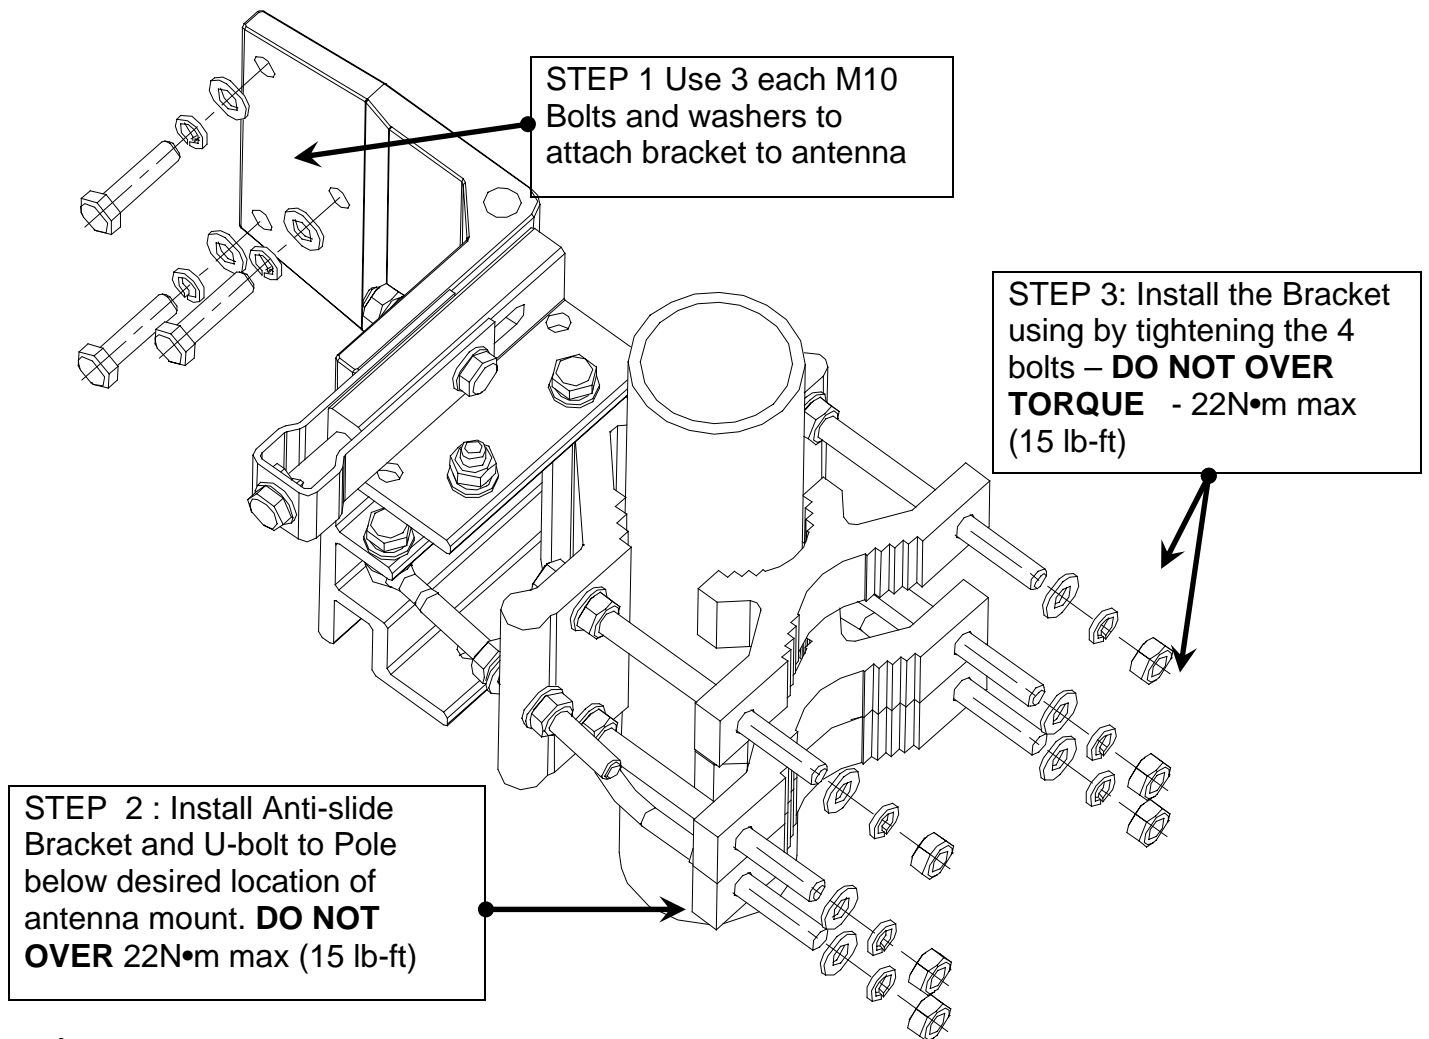

Figure 1 – Bracket attachment to Dish and pole
From the mounting kit, first attach the mounting bracket to the antenna using 3 each of the M10x40mm bolts and washers as shown in Figure 1.
Step 2: Install anti-slide bracket below the intended location of the mounting bracket as shown in Figure 1. The anti slide bracket prevents the mounting bracket from sliding down the pole during installation.